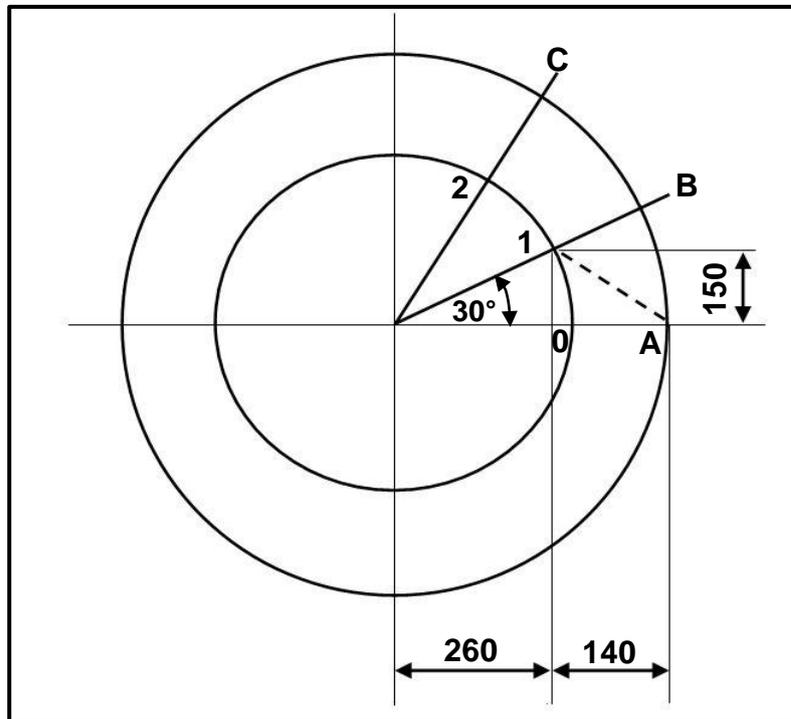

FIGURE 11.2
- (a) A-1 (2)
- (b) A-2 (2)
- (c) B-3 (2)
- 11.2 FIGURE 11.2 below shows the top view of a cone frustum. The vertical height is 500 mm. The large diameter is 800 mm and the small diameter is 600 mm. Answer the questions that follow.